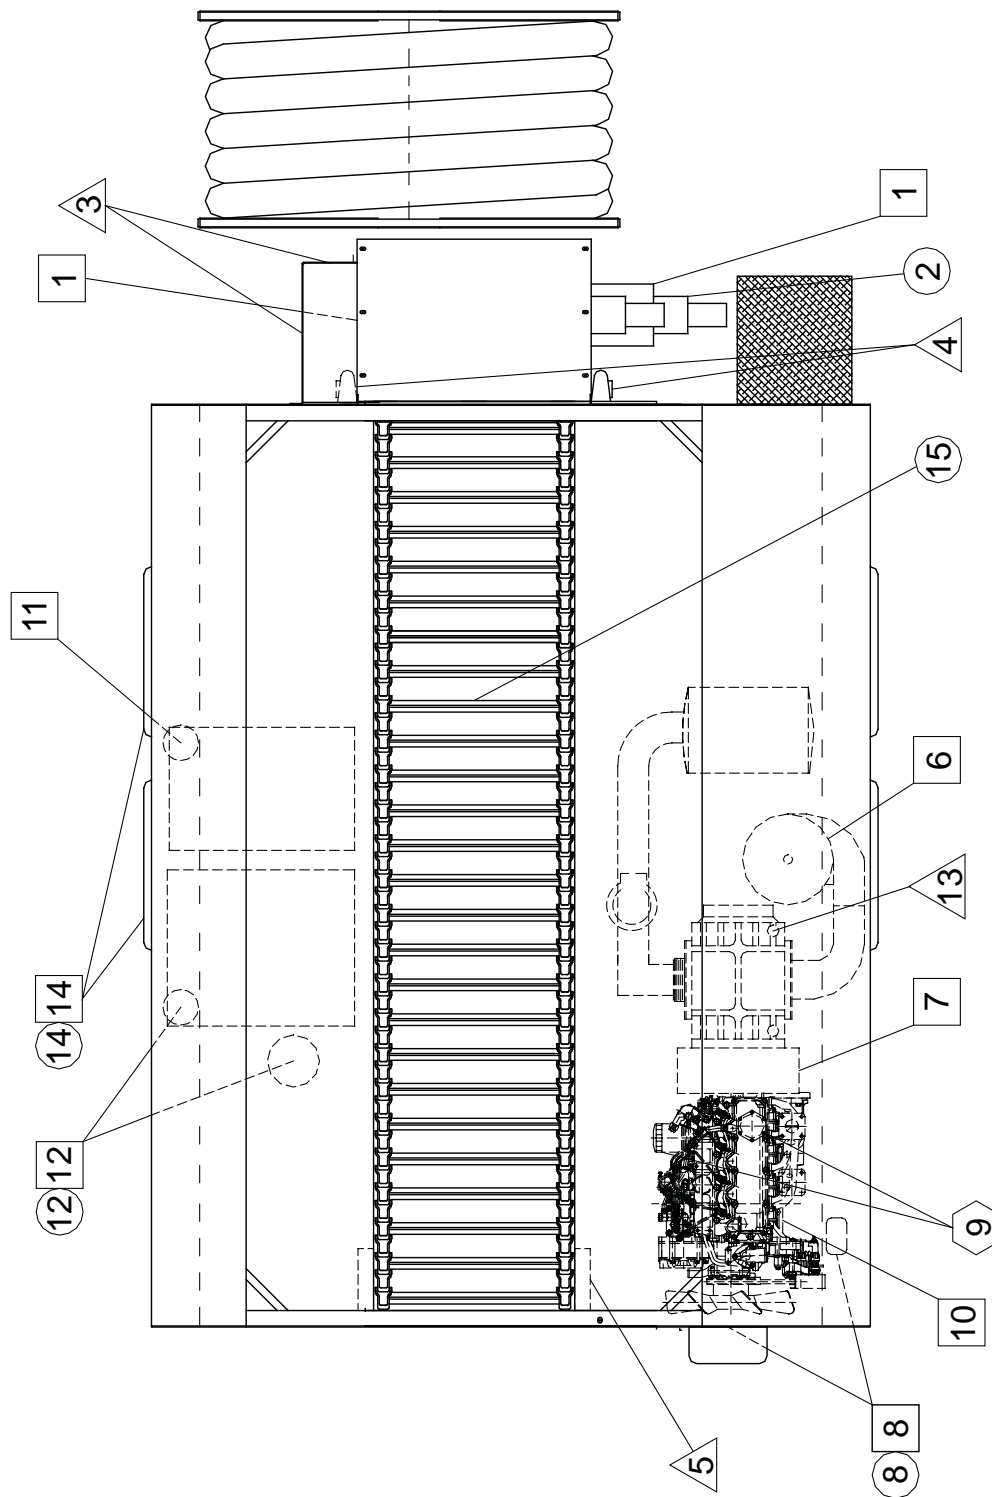

Figure 7 - Lubrication Chart
- D) Lay the knife down on the knife shelf. Ensure the knife is installed with the cutting angle edge facing down, as shown in Figure 7. Loosely install the four knife clamps with the eight knife mounting bolts. Tighten the mounting bolts just enough to hold the knife in position, while still allowing it to be moved.